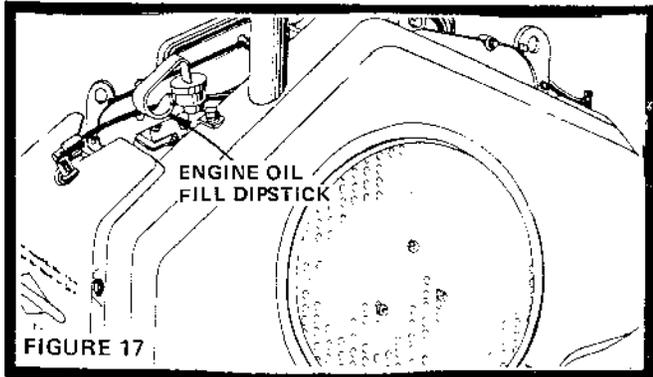

FIGURE 17
- Refill Engine Oil (Fig. 17). In summer use S.A.E. 30 (SC, SD or SE) Oil. In winter (below 32°F.) use S.A.E. 10W30 (SC, SD or SE) or 10W40 (SC, SD or SE). In extreme cold (below 0°F.) use S.A.E. 5W20 (SC, SD or SE). Capacity is 3 - 1/2 pints. **NOTE: DO NOT OVER-FILL.**
Several minutes after stopping Engine, check Engine Oil Level with Tractor on level ground. Wipe dipstick (Fig. 17) clean, push it down tight for a few seconds, remove and read Oil Level. If necessary, add Oil until "FULL" mark is reached. In summer use S.A.E. 30 (SC, SD or SE) Oil. In winter (below 32°F.) use S.A.E. 10W30 (SC, SD or SE) or 10W40 (SC, SD or SE). In extreme cold (below 0°F.) use S.A.E. 5W20 (SC, SD or SE). NOTE: DO NOT OVER-FILL.